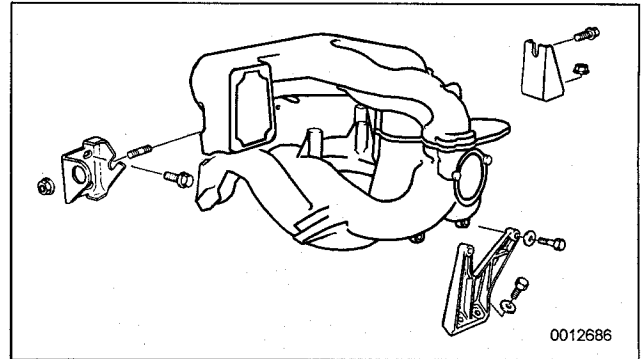

Fig. 6. Intake manifold support brackets and mounting hardware. Manifold for M44 engine shown.
- Remove manifold support brackets. See Fig. 6.
- Remove Y-shaped support bracket from underside of manifold. (See Fig. 6.)